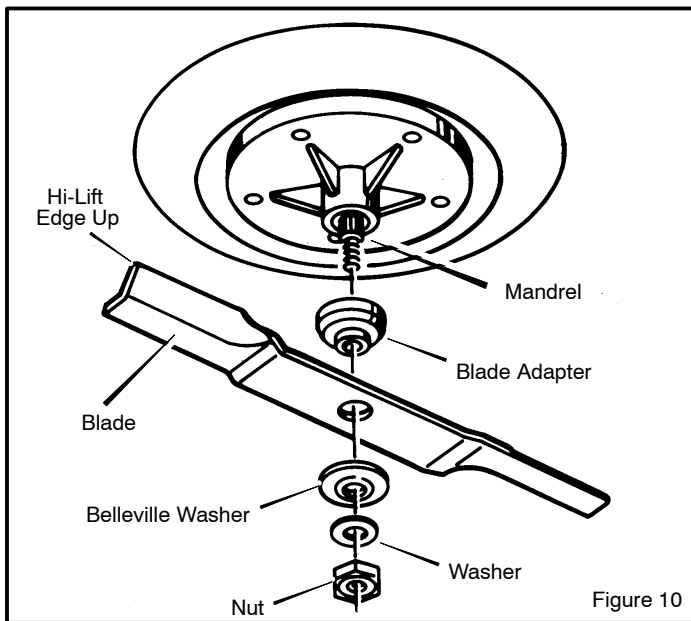

Figure 10
3. Remove the **nut** that holds the blade (Figure 10).
6. Mount the **blade** and **blade adapter** on the **mandrel** (Figure 10).